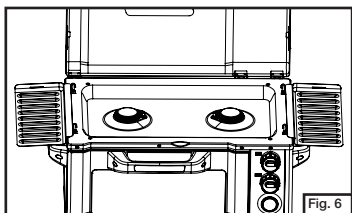

Fig. 6
- The wind guards can be opened and used as side tables. (Fig. 6)